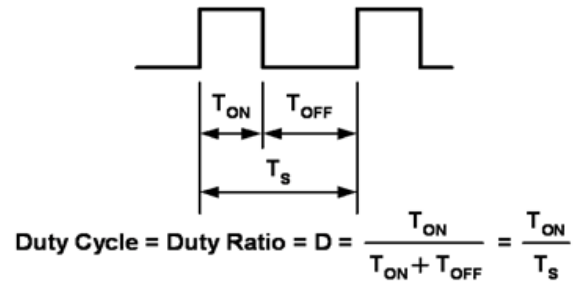

Figure 13.
the human eye will detect a flicker from the light emitted from the LEDs. Between 500 Hz and 20 kHz the circuit may generate audible sound. Dimming is achieved by turning the LEDs on and off for a portion of a single cycle. This on/off cycle is called the Duty cycle (D) and is expressed by the amount of time the LEDs are on (T_{ON}) divided by the total time of an on/off cycle (T_s) (Figure 13).